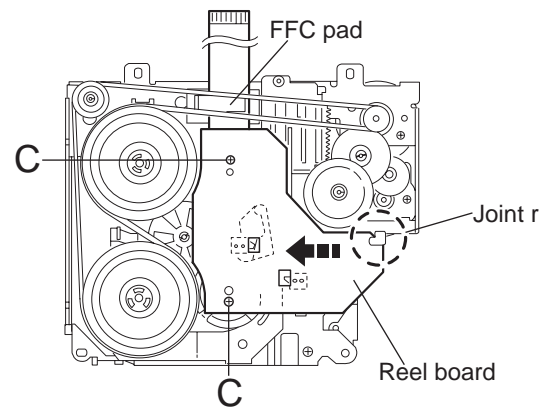

Fig.23
2.2.12 Removing the reel board (See Fig.23 and 24)